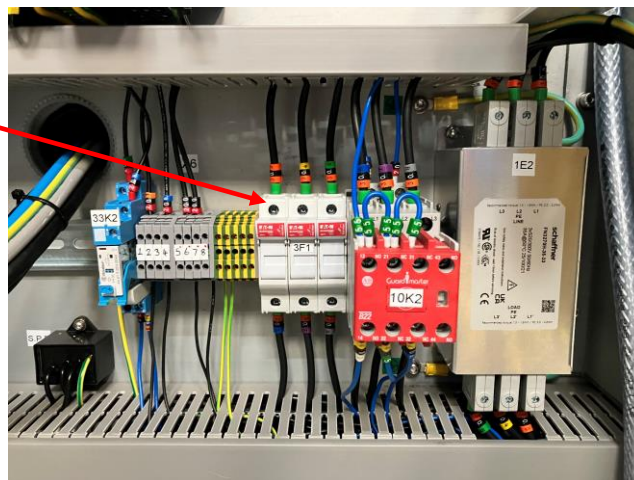

Figure 7 - 3F1 fuse holder
4. Locate the 3-phase fuse holder labelled “3F1”. See *Figure 7 - 3F1 fuse holder*.